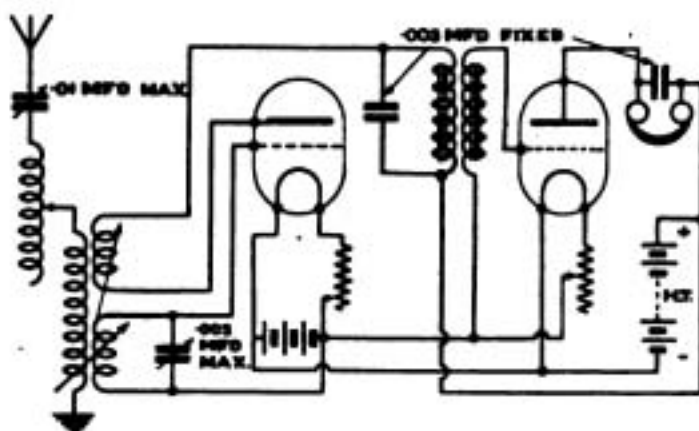

Fig. 6.
H.W. (Liverpool) asks (1) For a diagram of a 2-valve set, using certain instruments. (2) If he could receive 4,000 miles, and if he could hear Washington. (3) If it is necessary to use grid leak and condenser with valves He also states (4) That he can hear Seaforth, 12 miles away by only using a piece of silicon and No. 24 wire, cat-whisker, 2,000 ohm telephones (double), and P.M.G. aerial, and that when he connects inductance, signals are weaker. Diagrams of the two circuits are given.
(1) See Fig. 6. You will require a reactance coil to make the first valve oscillate in order to